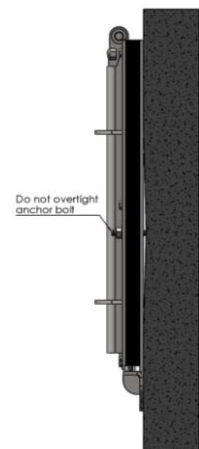

Figure 5
- CAUTION!: If the slide gate is not completely in contact with the wall, do not over-tighten the anchor bolts. Over tightening may bend or distort the frame. If the wall flatness and levelness is according to the specified standards, the construction sealant will fill in the remaining void (see Figure 5)